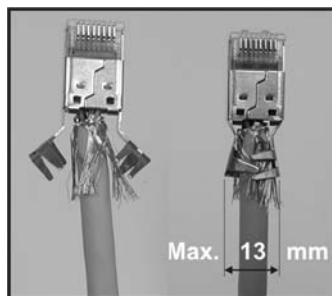

Fig.2.
- ❑ **IMPORTANT: Prior to crimping, close the shield wings by hand. Width of shield shouldn't exceed 13 mm (Fig.2).**